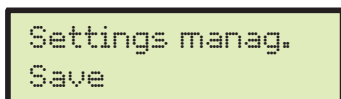

Fig. 73
- Select Save (Fig. 73) and press **OK**;